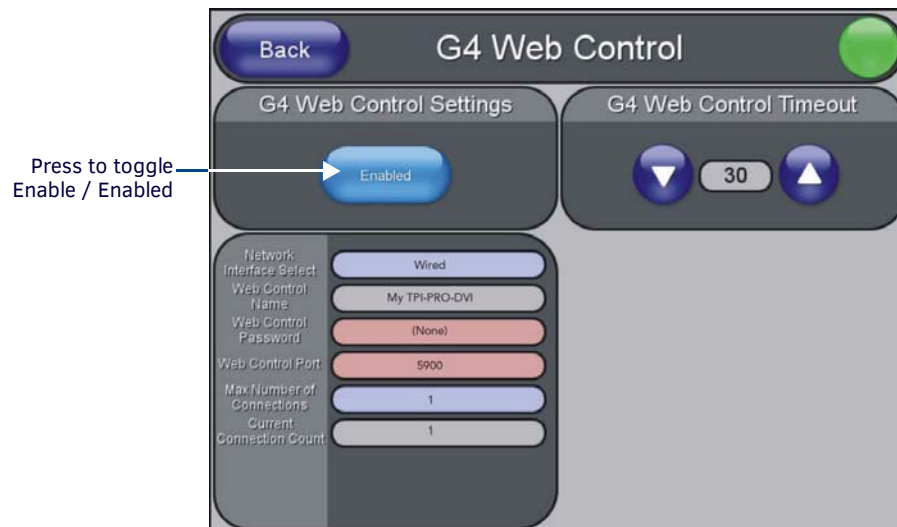

FIG. 84 G4 Web Control page
1. Open the G4 Web Control page (FIG. 84):
2. Press **Enable/Enabled** until it toggles to **Enabled** (as shown in FIG. 84).
This password was previously entered into the Web Control Password field in the G4 Web Control page on the TPI (see FIG. 84 on page 136).